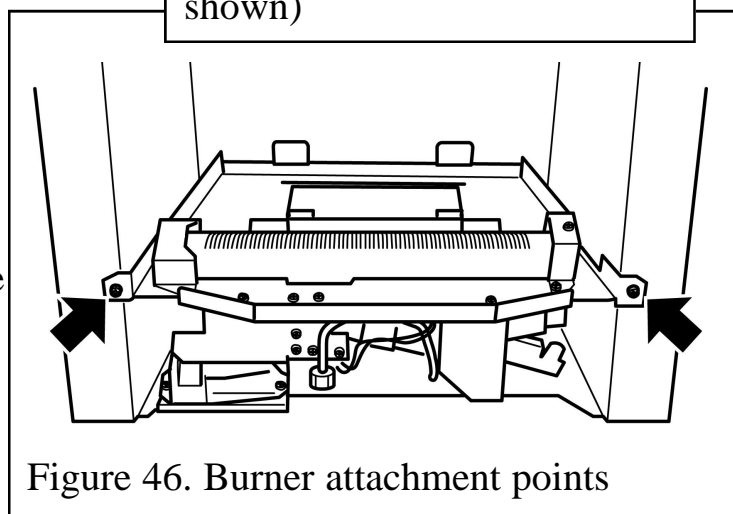

Figure 46. Burner attachment points
4. Detach the burner unit from the hotbox by removing two screws (See figure 46).